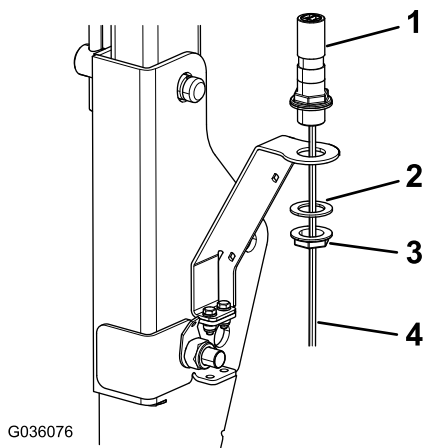

Figure 10
- Install the beacon stand to the beacon bracket (Figure 10).